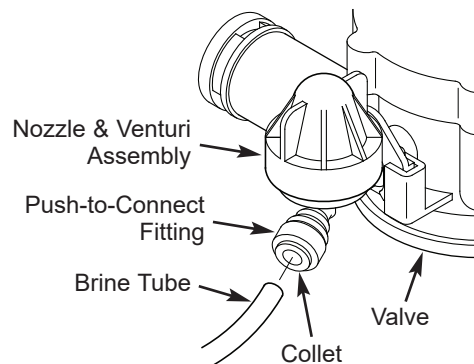
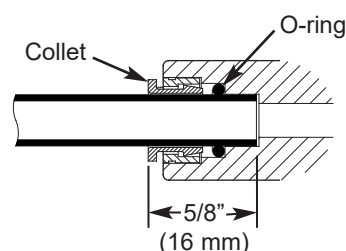

FIG. 12
FIG. 14
- Connect brine tube by inserting end into push-to-connect fitting on the valve's nozzle & venturi assembly (See Fig. 12). Push it until at least 5/8" (16 mm) of tube is inserted (See Fig. 14).